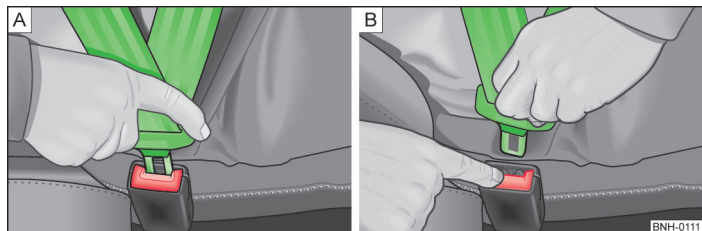

Fig. 155 Fastening/unfastening the seat belt
- » Insert the lock tongue into the belt buckle » Fig. 155 - [A] that is part of the seat until it clicks into place.
- » Press the red button in the belt buckle » Fig. 155 - [B], the lock tongue pops out.